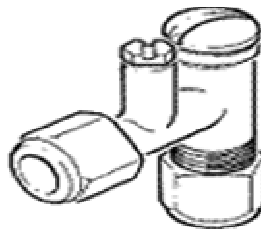

**Figure 19**
2. On the outside wall insert the spigots on the wall plate into the ducts ensuring that it is the right way up i.e. double spigot uppermost (see **Figure 19**).